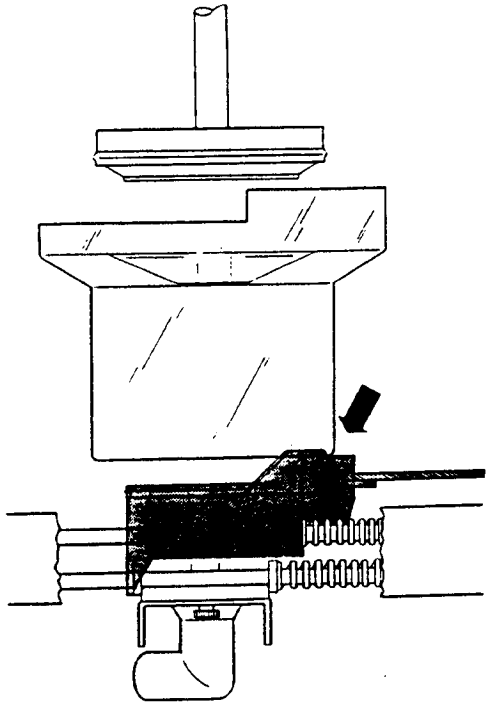

FIGURE 3.9
4. If the carriage was not correctly behind the cylinder and is being forced back out of the way or the cylinder is resting on top of the alignment shoulder of the brew carriage (see FIGURE 3.9) and causing the brew water to leak from between the cylinder and the